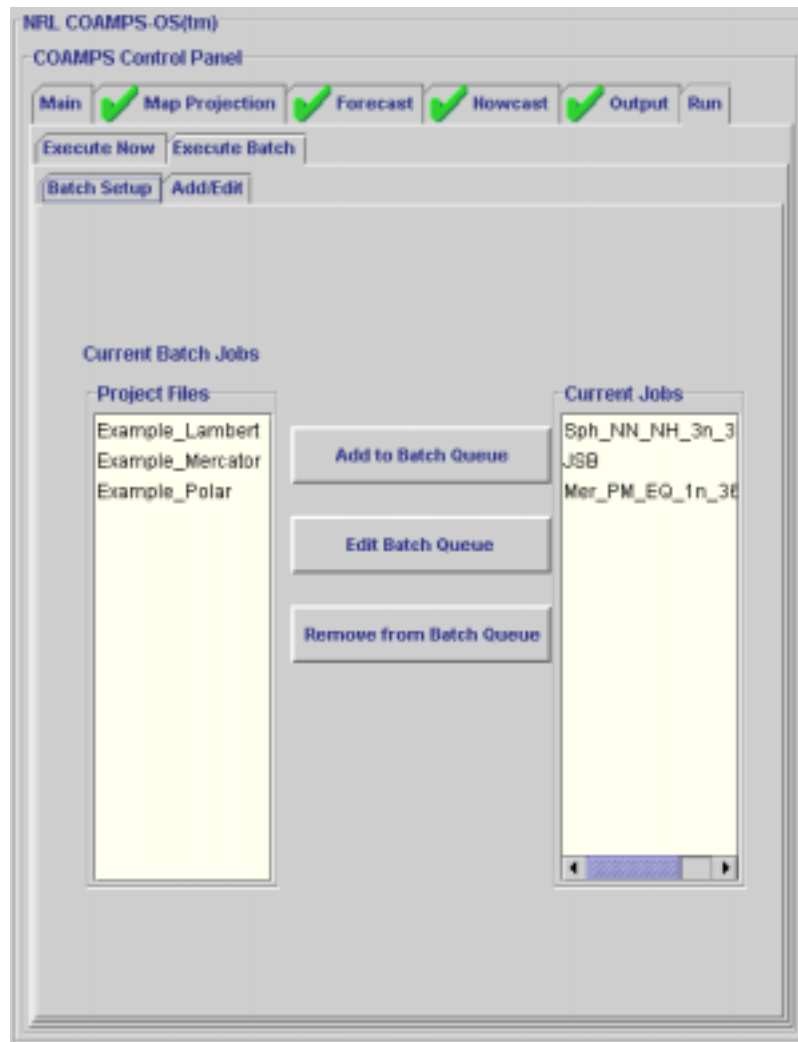

Figure 33. Batch Setup Control Panel
- If a user requires a scheduled COAMPS forecast to start at a specific time every day, click on the **Execute Batch** tab in the **Run Settings Control Panel**. Selecting the **Execute Batch** tab opens the **Batch Setup Control Panel** shown in Figure 33.